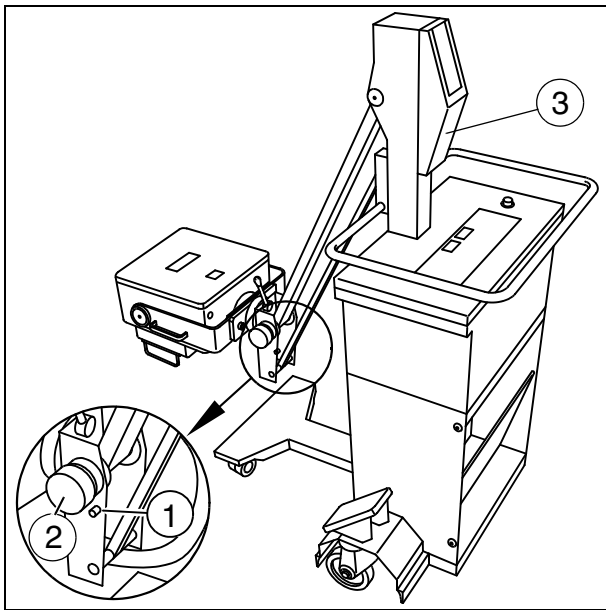

Fig. 1
- Unlock the support arm (1/Fig. 1) and loosen the knob (2/Fig. 1).
- Remove the cover on the stand (3/Fig. 1).
- Release completely the additional brake on the support arm (2/Fig. 1).